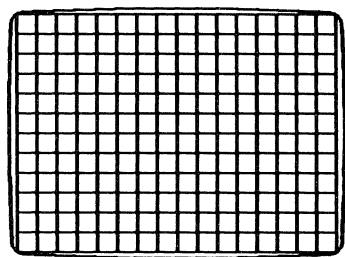

FIGURE 9. CROSSHATCH PATTERN
- b) Operate the computer in such way that the entire screen is a crosshatch pattern on the center of the CRT screen (FIG.9).
- b) Apply the crosshatch pattern (FIG.9) from the computer to the display monitor. Observe spacing between lines around the edges of the CRT.